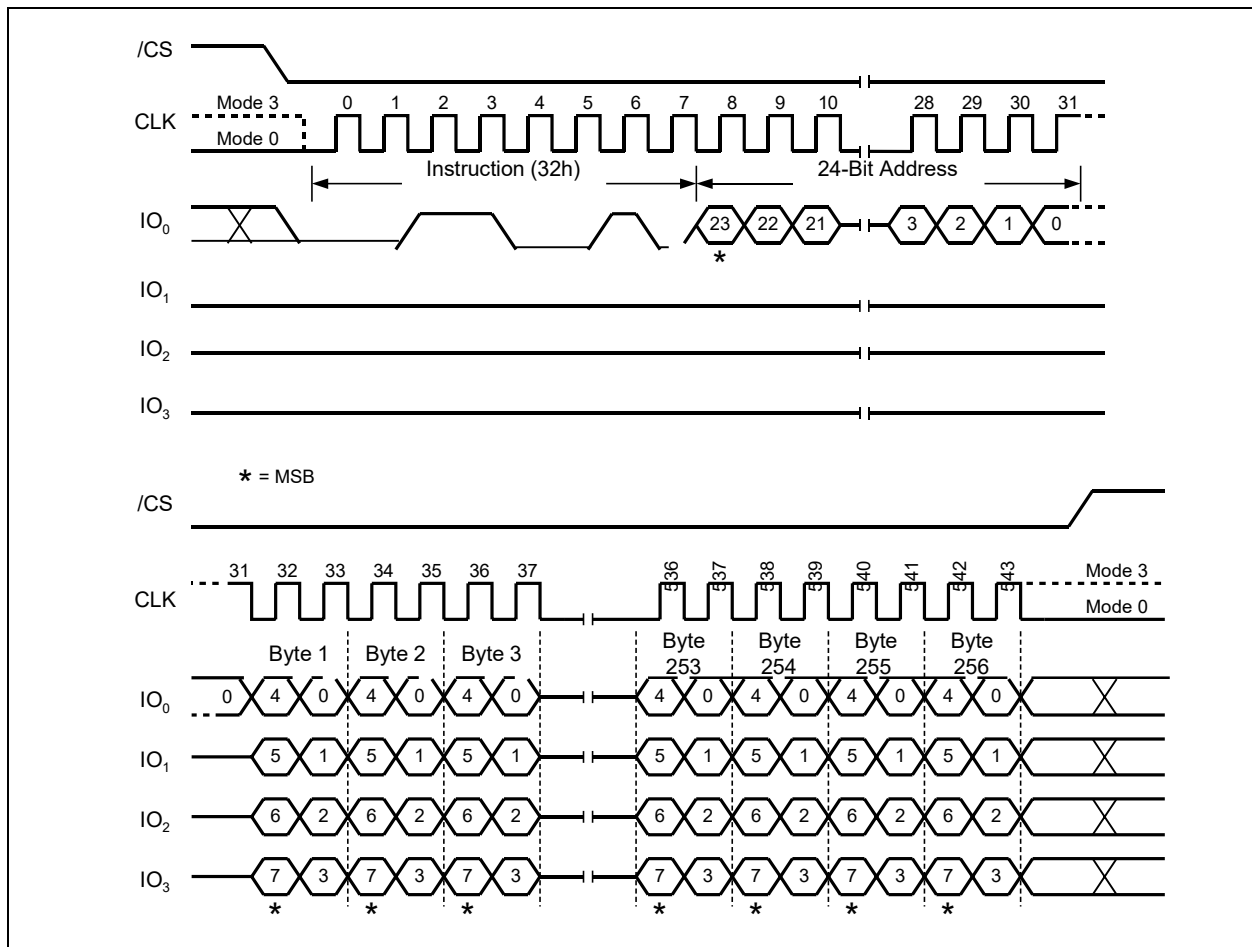

Figure 30. Quad Input Page Program Instruction (SPI Mode only)
To use Quad Page Program the Quad Enable (QE) bit in Status Register-2 must be set to 1. A Write Enable instruction must be executed before the device will accept the Quad Page Program instruction (Status Register-1, WEL=1). The instruction is initiated by driving the /CS pin low then shifting the instruction code "32h" followed by a 24-bit address (A23-A0) and at least one data byte, into the IO pins. The /CS pin must be held low for the entire length of the instruction while data is being sent to the device. All other functions of Quad Page Program are identical to standard Page Program. The Quad Page Program instruction sequence is shown in Figure 30.